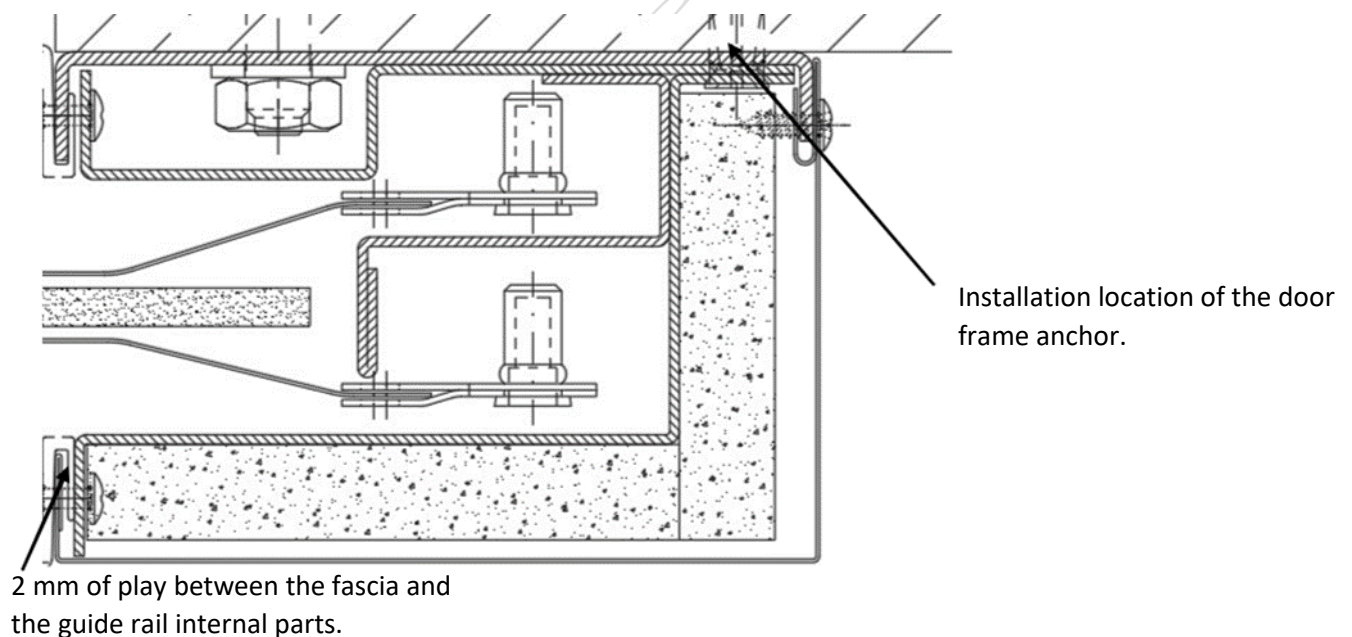

Fig. 11. Installation of the guide rails
- Use the channel bar holes to drill $\varnothing 8$ holes for the door frame anchors (Fig. 11 and 12)